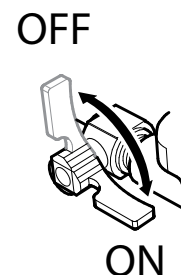

Figure 19. Water Valve (ON)
10. If the sprinkling of water is required, place water valve (Figure 19) in the ON position.
- If applicable place water valve (Figure 19) in the **OFF** position.